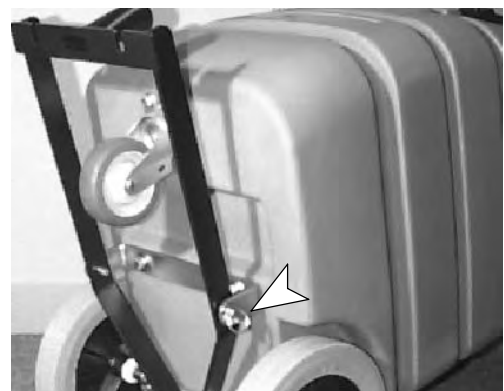

FIG. 2
6. Fasten squeegee to mounting bracket. Use (2) clevis and cotter pins provided (*Figure 2*).